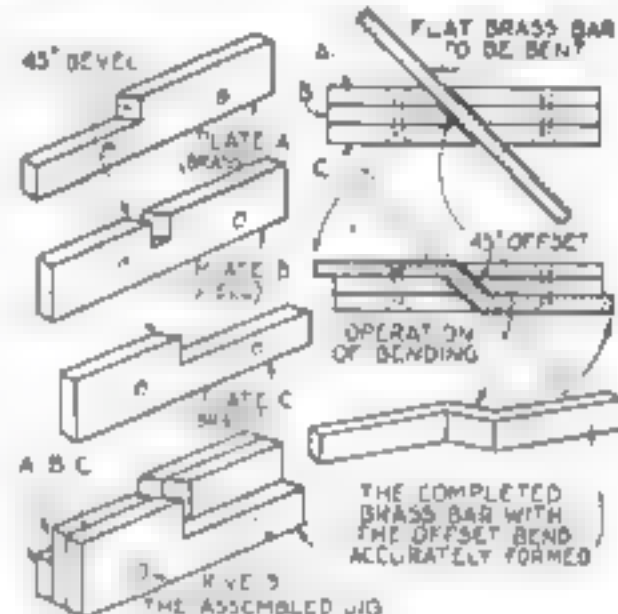

Fig. 4. Inexpensive jig for making offset bends by hand in a number of small flat brass bars.
**FIGURE 4** explains the construction of a jig to form offset bends in a large number of flat brass bar pieces. The stock was  $\frac{1}{8}$  in. (Continued on page 115)